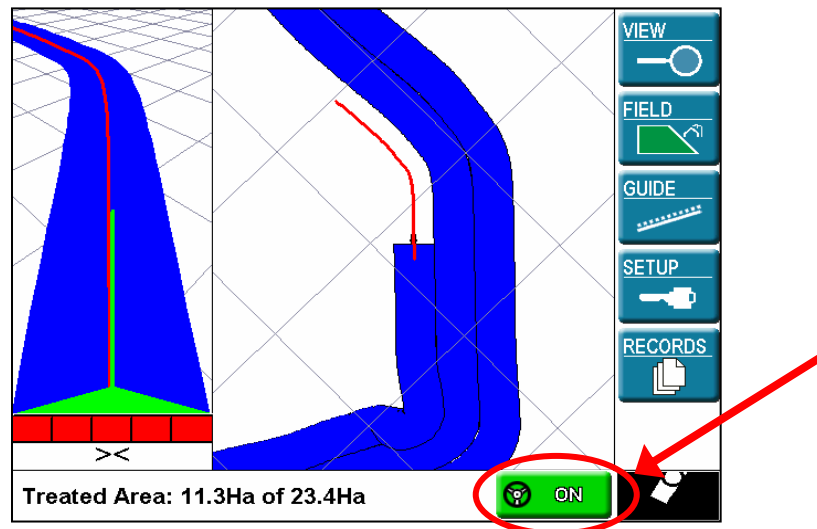

Figure 4-1 AutoSTEER Status button
- 1) From the Main guidance screen touch and hold the **AutoSTEER Status** button on the status bar for 4 seconds. See Figure 4-1.